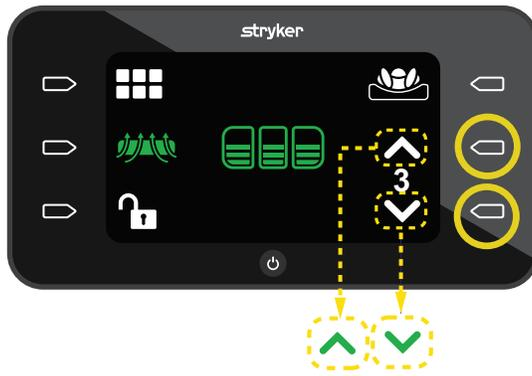

Figure 31 – Static mode on
3. Press the **Action** button next to the **Increase** or **Decrease** icons to increase or decrease the static pressure level from 1 to 5 (Figure 31).